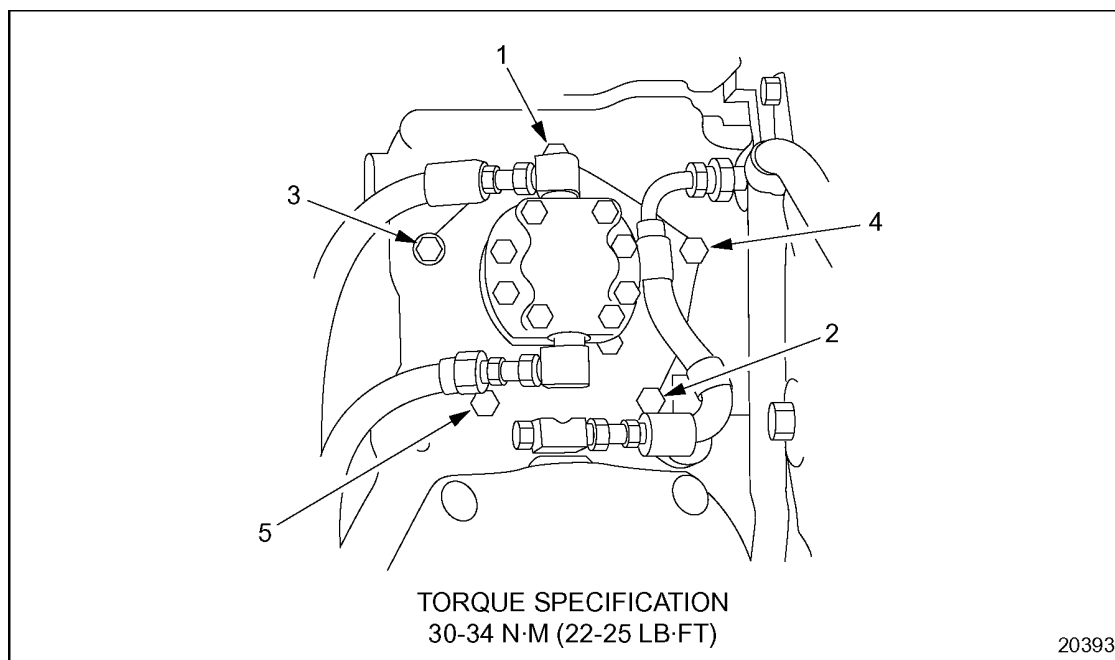

Figure 2-43 Fuel Drive Torque Sequence
5. Install the fuel drive bolts and torque to 30-34 N·m (22-25 lb·ft) using the torque pattern shown. See Figure 2-43.